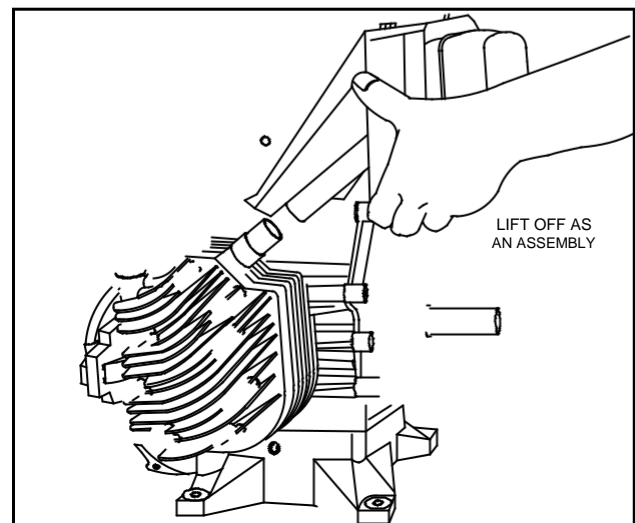

Fig. 4 – Removing Muffler Assembly
3. Lift off muffler assembly, Fig. 4.